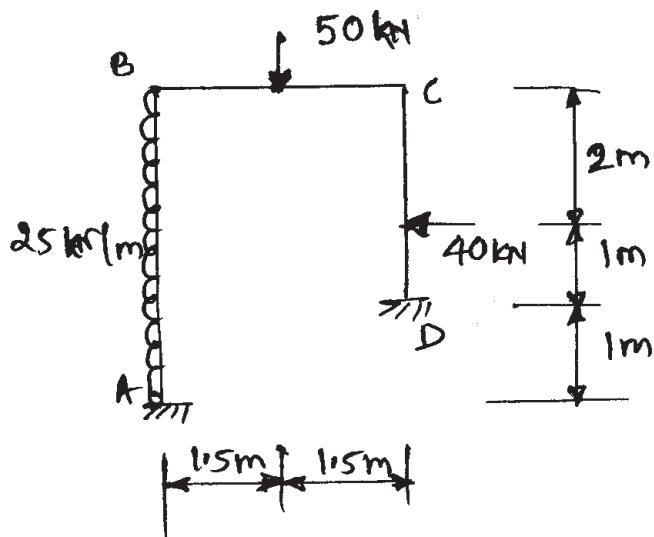

Fig Q.10
- Q10)** Analysis the rigid jointed plane frame supported and loaded as shown in fig. Q.10 by stiffness method. Draw B.M.D and elastic curve. [16]